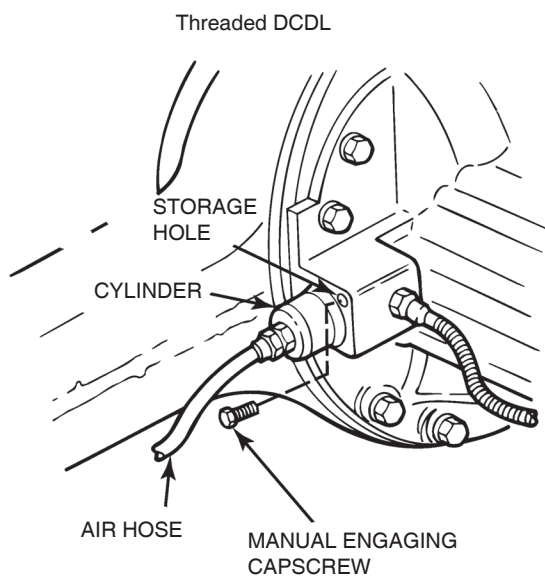
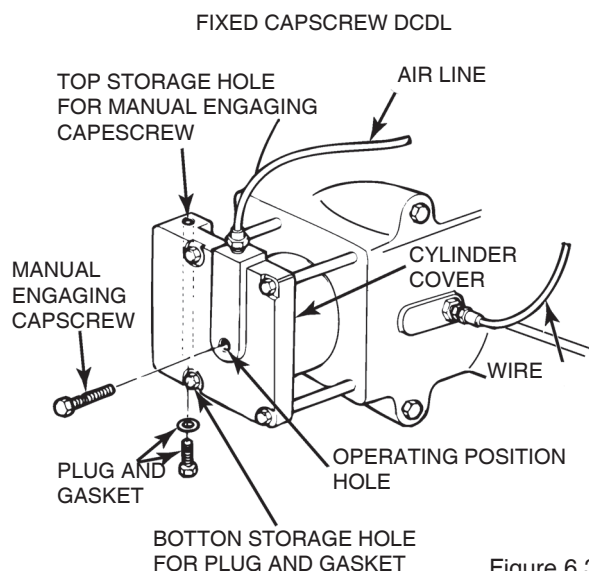

Figure 6.2
Figure 6.3
If an auxiliary air supply is not available or if the differential differential is to be stored for later use, use this manual engaging method for the DCDL. Figure 6.2 and Figure 6.3.
8. Remove the manual engaging capscrew from the top storage hole in the cylinder cover or the shift tower with the threaded type shift assembly. Figure 6.2 and Figure 6.3.
For a fixed capscrew DCDL shift assembly, the storage hole for the plug and gasket is the opposite end of the storage hole for the manual engaging capscrew. Figure 6.3.